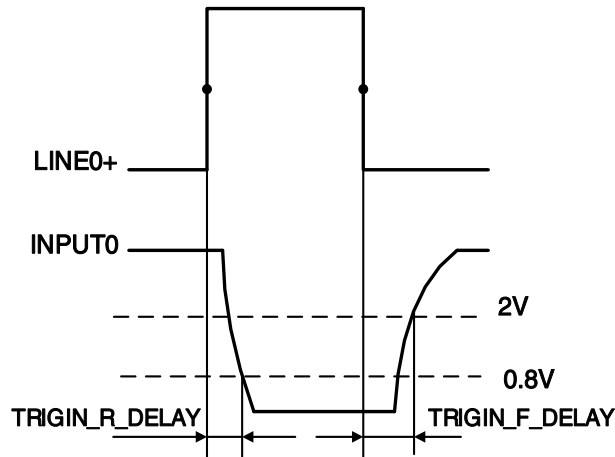

Figure 7-4 Parameter of opto-isolated input circuit
- Rising edge delay: $<50\mu s$ ($0^{\circ}C \sim 45^{\circ}C$), parameter description as shown in Figure 7-4
- Falling edge delay: $<50\mu s$ ($0^{\circ}C \sim 45^{\circ}C$), parameter description as shown in Figure 7-4